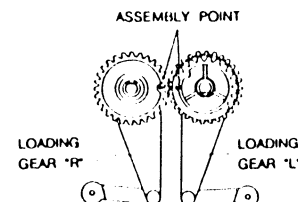

Fig. 51 Loading Gear L/R Assembly point
1. Reinstall the loading gear L/R assemblies in the eject mode while align the timing marks. (Fig. 51)